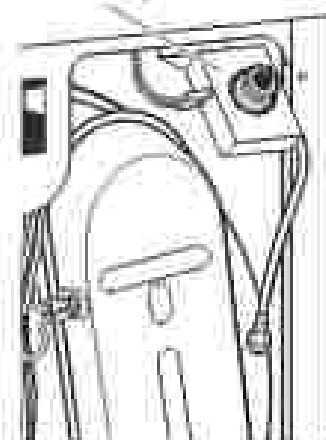

Figure 11 - Water System Components
Activate Service Test Mode (see page 12). Advance to Step 3 in Service Test Mode Chart (see page 13). Verify that water is being sprayed into the drum. See figure 11.
- Check that the hoses and wires are connected to the water valve assembly (see figure 11).
- Check that hoses and wires are connected to the water valve assembly (see figure 11).